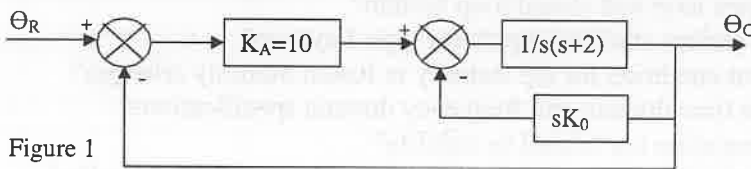

Figure 1
Q. No 3 (a) A feedback system employing output rate damping shown in figure 1.